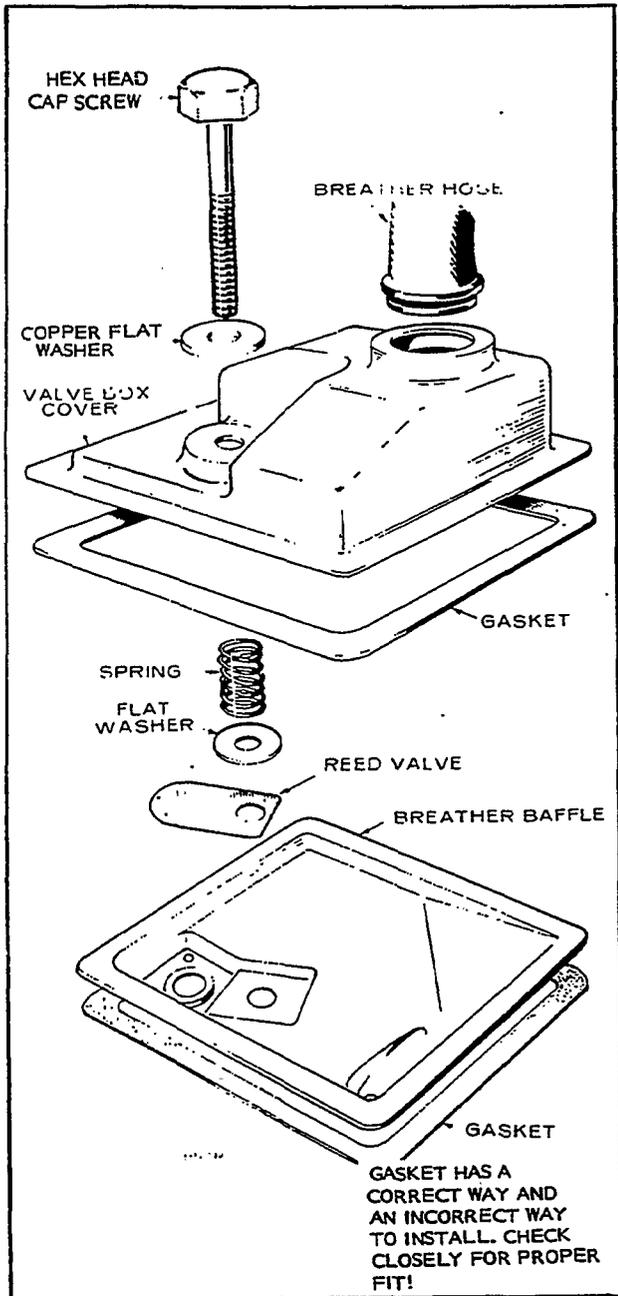

FIGURE 3. CRANKCASE BREATHER
**Crankcase Breather:** This engine uses a crankcase breather valve for maintaining crankcase vacuum. No maintenance is generally required. If the crankcase becomes pressurized as evidenced by oil leaks at the seals, clean baffle and valve in a suitable solvent. See Figure 3.